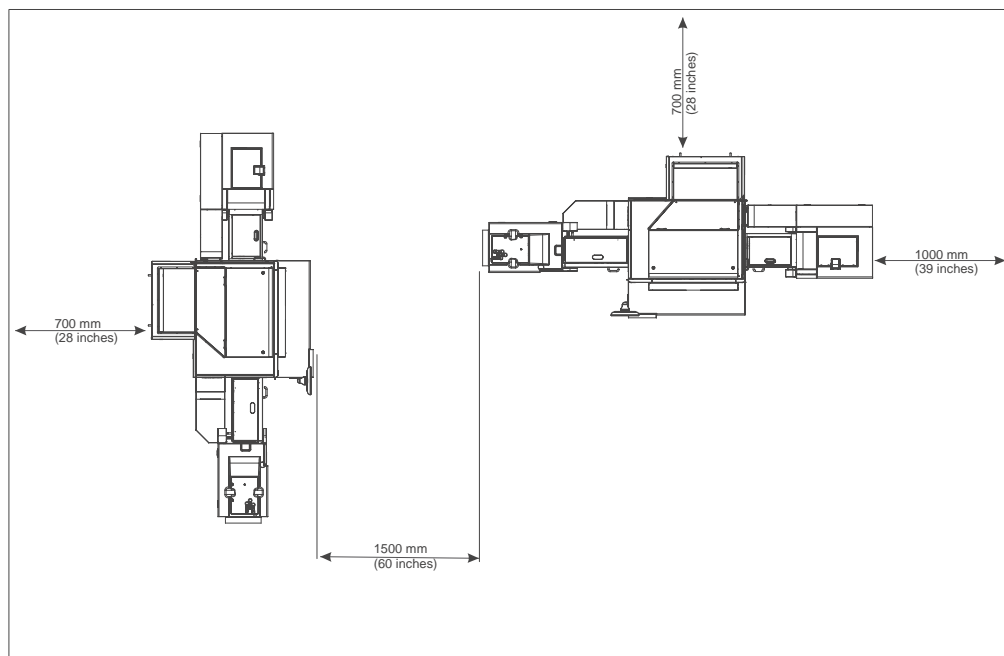

Figure 1-7. HP Indigo 7000 Digital Press - layout for access
- If more than one press is located at a site, minimum spacing between the presses should be 1,500 mm (60 inches) (see Figure 1-7).